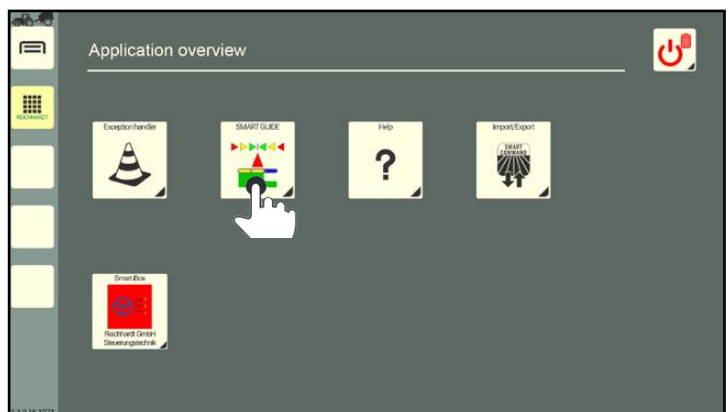

Fig. 62: Pressing and holding the application
2. Press and hold the corresponding application in the application overview (see Fig. 62).